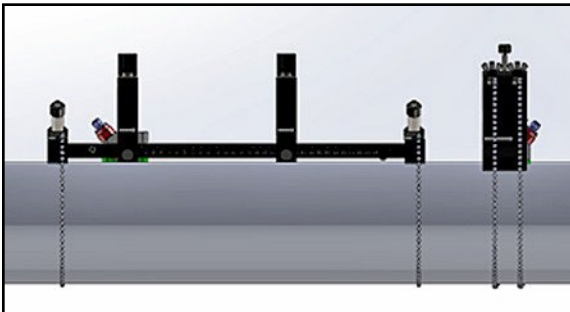

Figure 42: Completed Installation (Top View)
9. Tighten the yoke screw until the transducer firmly contacts the pipe. Your completed odd-traverse installation should look like Figure 42 below.